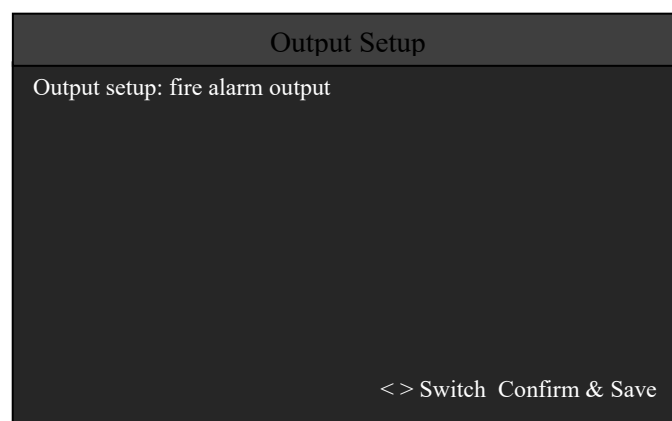

Fig. 3-20 Output setup
In user setup interface, press number key 5 or move the cursor to 5, and then press "√" key to go into output setup interface. Output setup can be "fire alarm output", "fault output" or "power supply output", press "√" key to save, as shown in Fig. 3-20.